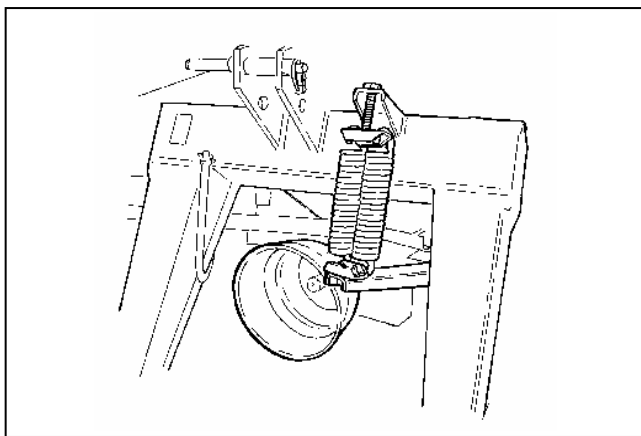

Fig. 33
- FIG. 33**      Mount extra springs on the release.